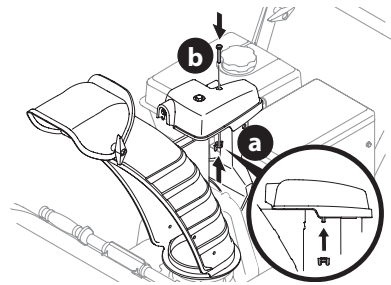

Figure 9
3. Finish securing chute control head to chute support bracket with wing nut (a) and hex screw (b) removed in Step 1 (Figure 9).